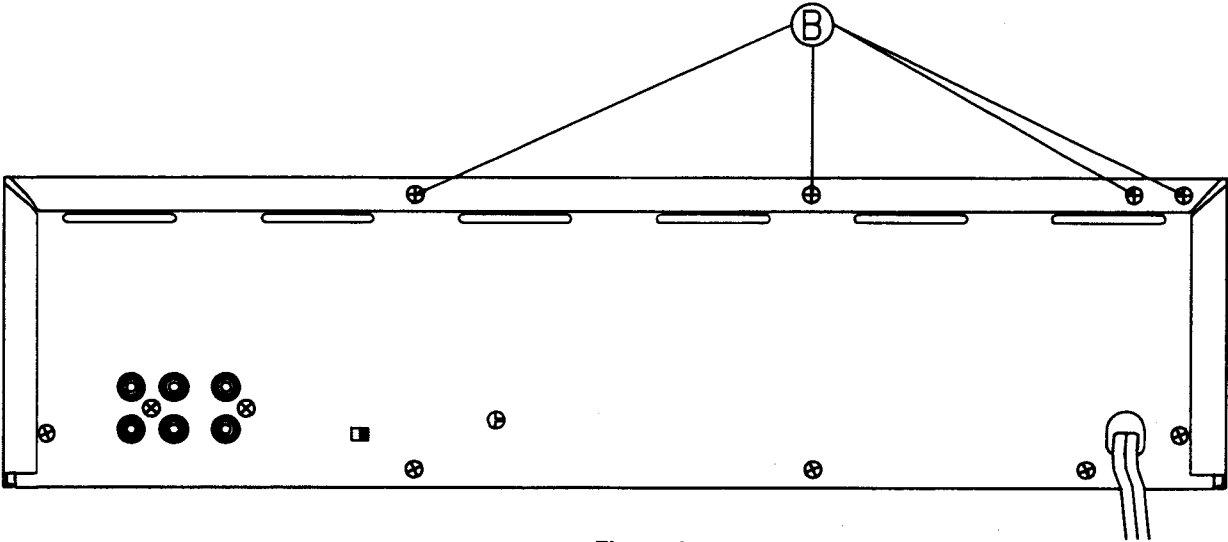

Figure 2
2. Remove 4 screws (B) from the back panel. (See Figure 2)